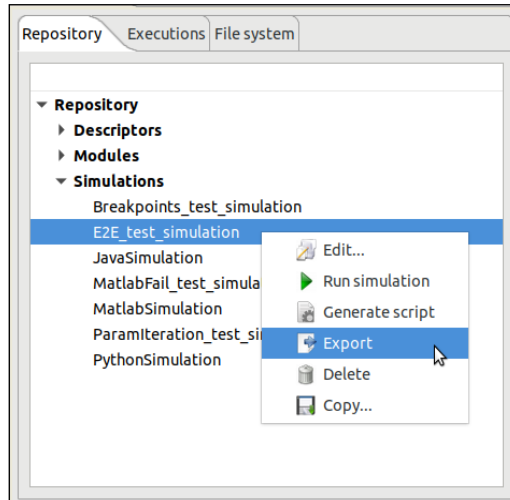

Figure 4-120: Export from the repository menu
1. From the **Repository** menu. In this case, we need to navigate from the “Repository” menu down to the simulation that the user wishes to export. Next, right-clicking over it; the “Export” option appears for selection. This is illustrated in Figure 4-120 below.